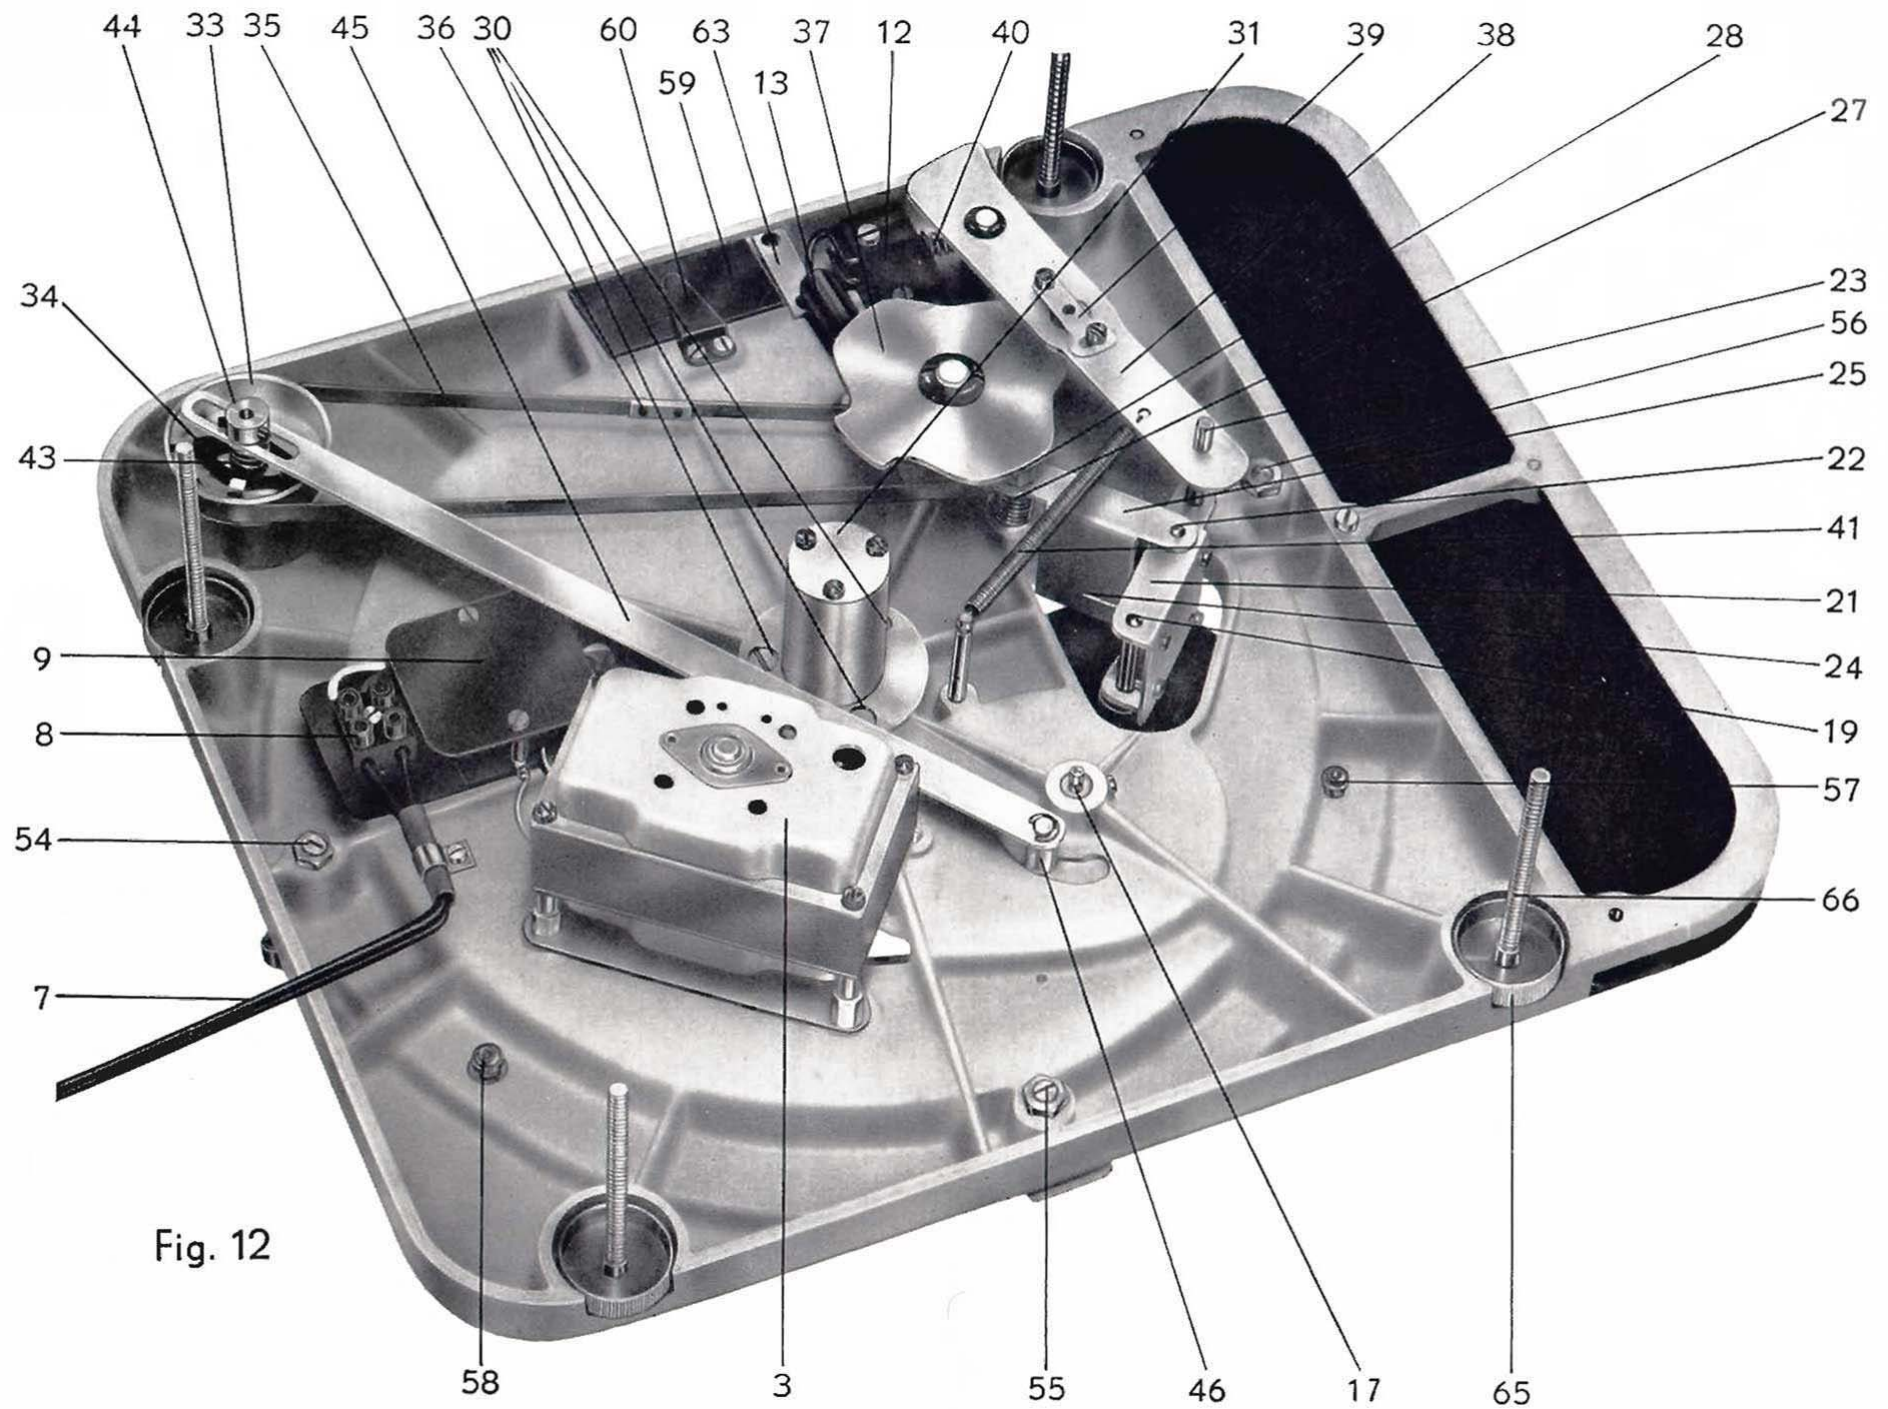

Fig. 12
2. Remove the stroboscope mirror (Fig. 12 No. 59) by loosening the mounting spring (No. 60).